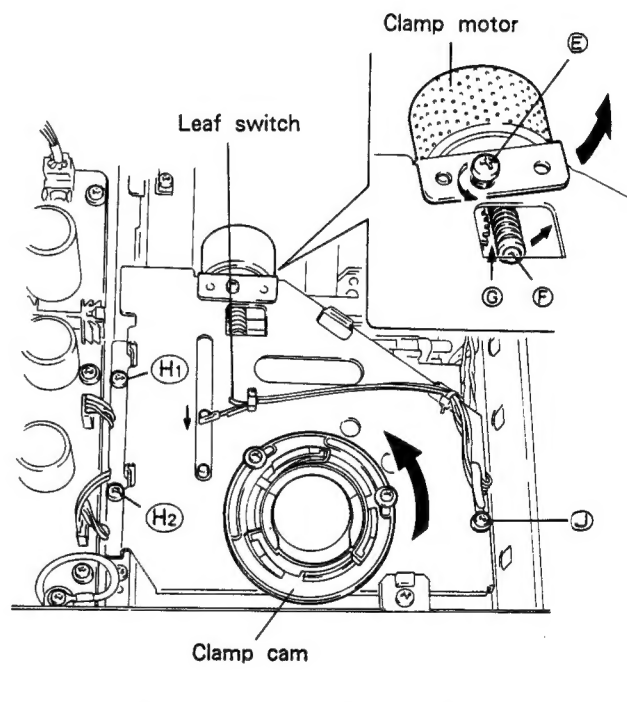

Fig. 2-2.
1. Loosen the screw (E) fixing the clamp motor.
2. Taking care not to drop the iron ball of the tip of the gear section of the clamp motor as shown in Fig. 2-2, keep the engaging section (G) of gear apart from the unit by tilting the clamp motor in the direction of arrow.
4. Mount the clamp motor again. (Drive the screw (E).)
2. Remove by turning over the clamp mechanism assembly. (Screws \textcircled{H}_1 , \textcircled{H}_2 and \textcircled{J} , Refer to Fig. 2-2.)